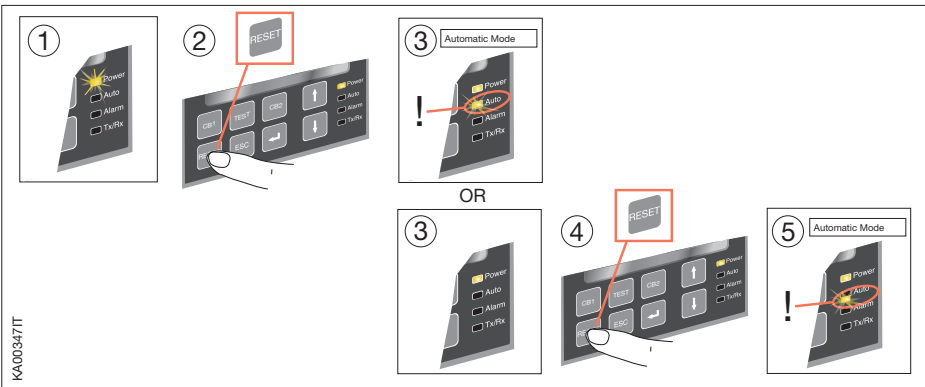

Figure 5.3: Description of automatic mode selection procedure for ATS022
- Make sure the Power LED is On, see Figure 5.3/1
- Press RESET once, see Figure 5.3/2. If the Auto LED is ON, the automatic transfer switch ATS022 is in Automatic mode, see Figure 5.3/3
- If the Auto LED is OFF, press RESET again, see Figure 5.3/3; the Auto LED switches to ON and the device is in Automatic mode/ Figure 5.3/4